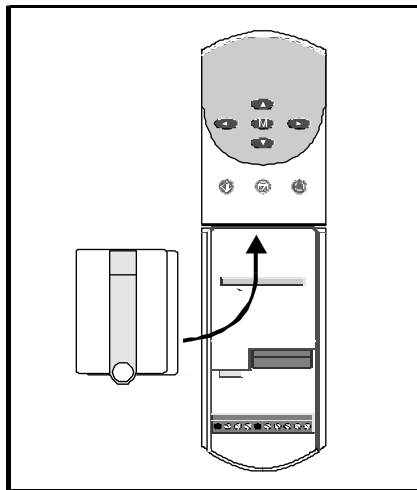

Figure 2. How to install the UD76 / Modbus Plus Large Option Module
3. Position the **UD76 Large Option Module** as shown in Figure 2 below, slide it into place until it latches into position.